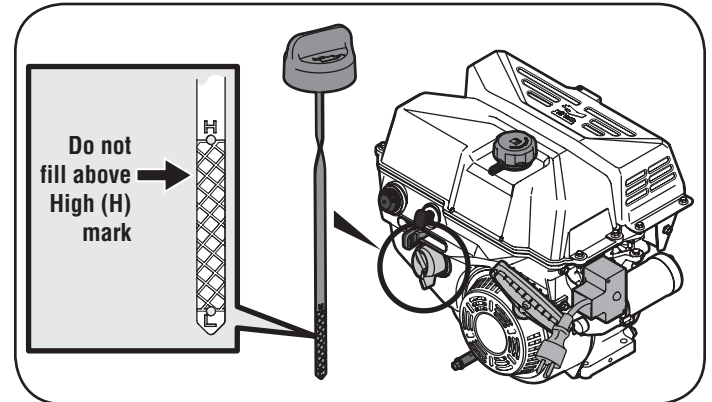
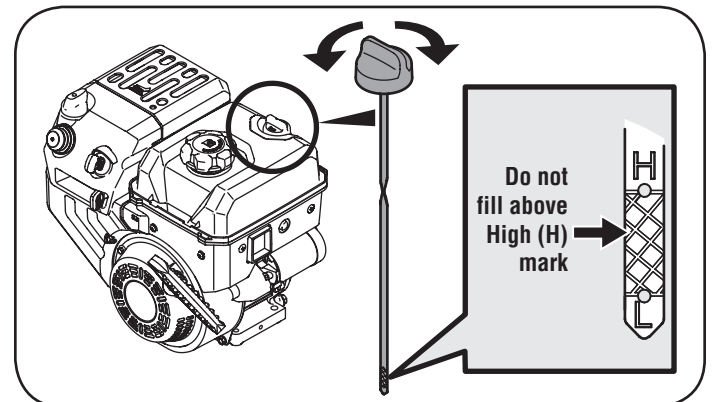

Figure 52
Figure 53
3. Remove the oil filler cap/dipstick. If level is low, slowly add oil until oil level registers between high (H) and low (L). See Figure 52 or Figure 53.